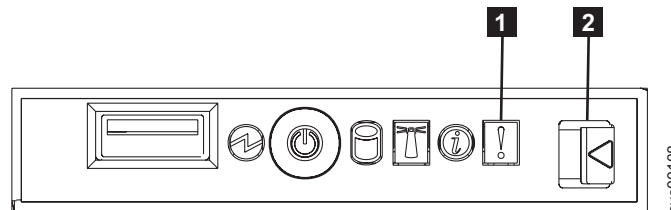

Figure 42. SAN Volume Controller 2145-8F2 operator information panel
1. **Is the Error LED on the SAN Volume Controller 2145-8F2 operator panel illuminated or flashing?** See Figure 42.